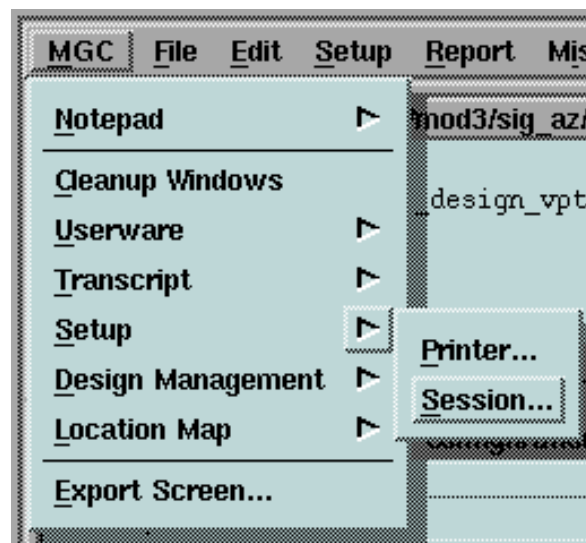

Figure 3-22. MGC > Setup Menu
5. Choose the **MGC > Setup > Session** pulldown menu item shown in Figure 3-22.